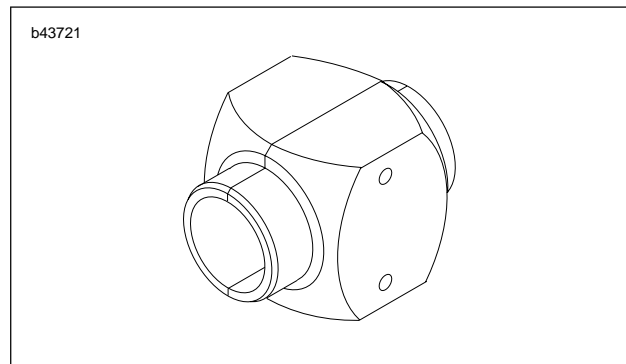

Figure 2-72. Fork Seal Driver (B-43721)
7. See Figure 2-69. Drive the guide bushing (22) with the seal spacer (23) and oil seal (24) into position in the outer tube using a FORK SEAL DRIVER (Part No. B-43721). See Figure 2-72.
8. Install the oil seal stopper ring (25) and a **new** dust seal (26).